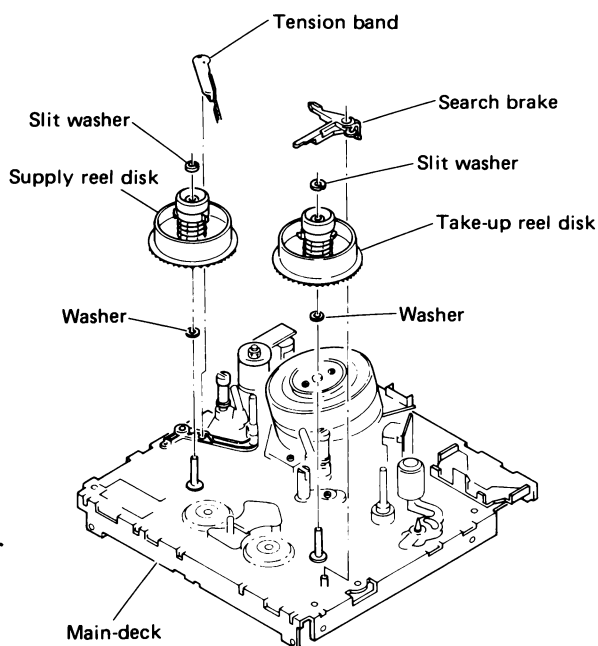

Fig. 2-12 Supply and Take-up reel disk replacement
2.3.7 Reel Disks (See Figure 2-12.)